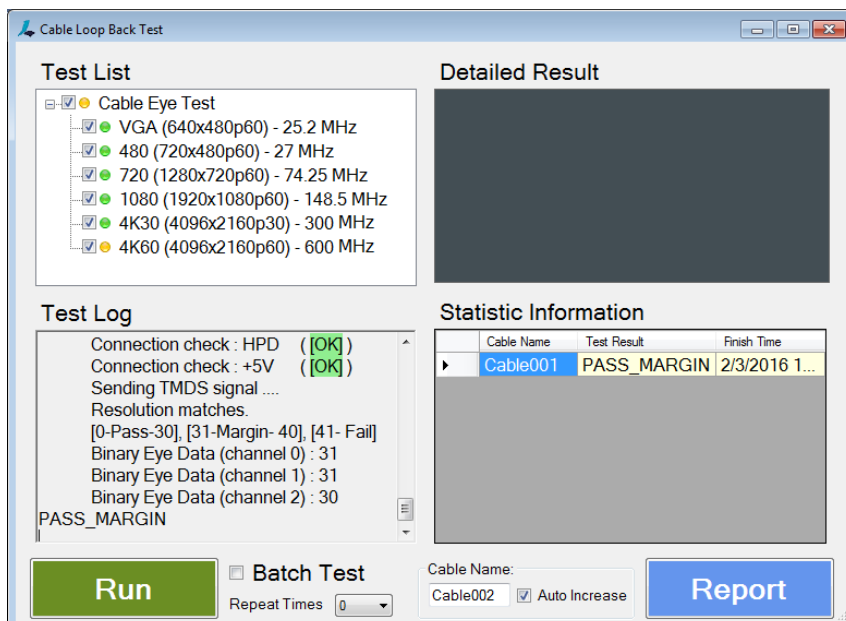

Figure 4.13. Cable Loop Test in the Single Mode
6. Start running test for the selected items, as shown in Figure 4.13.